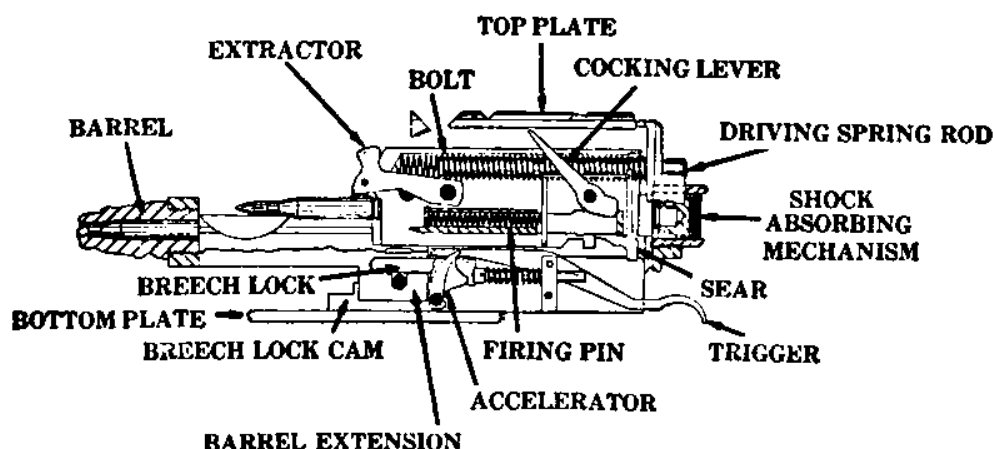

FIGURE 14.—Relation of parts in backward position.
■ 40. ACTION OF DRIVING SPRING (fig. 14).—When the rear of the bolt strikes the buffer plate, its remaining force is absorbed in the coiled spiral spring and the buffer disks. The force of the rearward motion of the bolt being absorbed by the buffer mechanism, the driving spring then forces the bolt forward.
■ 42. RELEASE OF RECOILING PARTS (fig. 14).—As the bolt goes forward its bottom projections strike the accelerator and turn it forward. This unlocks the barrel extension from the lock